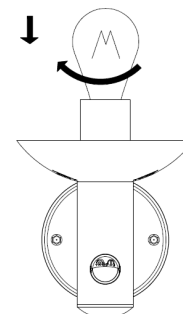

FIGURE 9
- (4) Insert the lamp into the lamp holder and turn clockwise to secure it. Do not over tighten. FIGURE 9